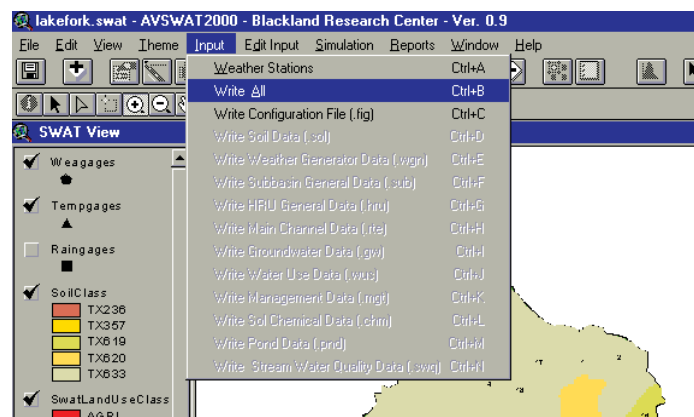

Figure 15.40
1. On the **Input** menu, click **Write All** (Figure 15.40).